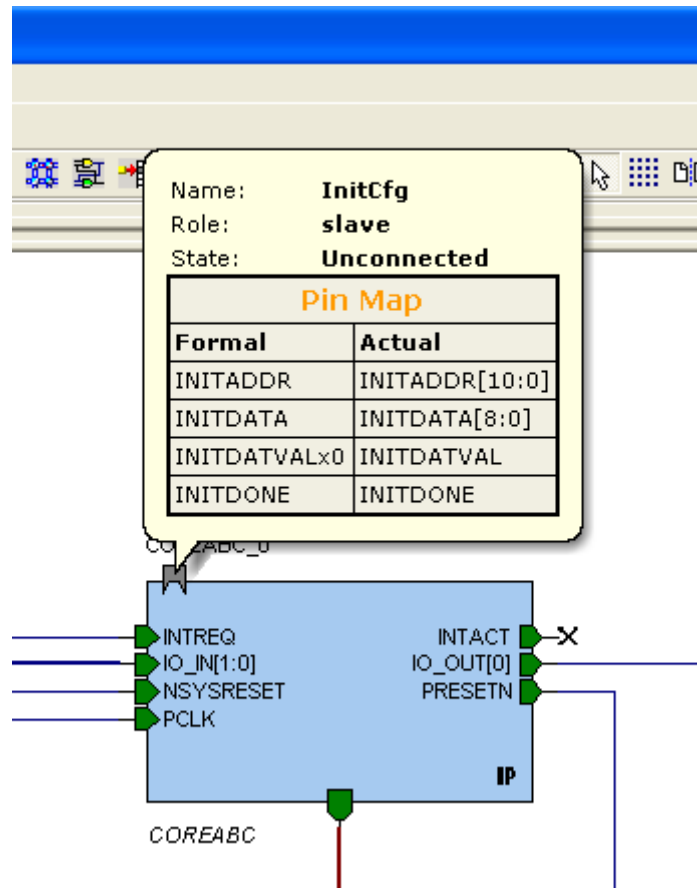

Figure 7-4 • CoreABC Instance
- Save the CoreABC configuration. Note in SmartDesign that the InitCfg bus interface now appears on the CoreABC instance (Figure 7-4).